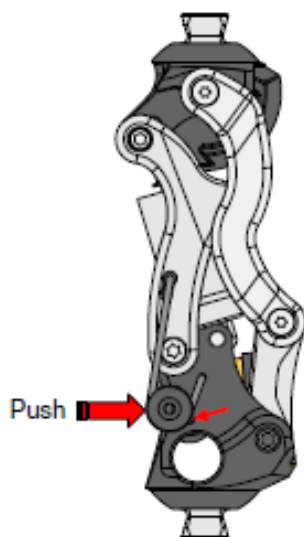

Fig. 6
- ② Push the spring with a finger so that the retainer hole may be matched to the spring mounting hole of the Swan body (as shown by the arrow in Fig.6).
- ③ Then tighten the attached set screw for fixation.